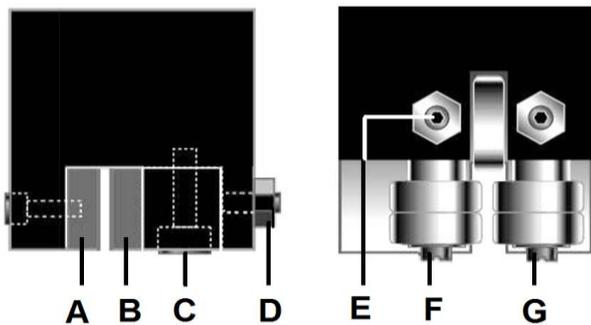

Figure 8-8: Blade Guide Adjustment
The position for pad (A, Fig 8-8) and bearings (G) are fixed and cannot be adjusted.